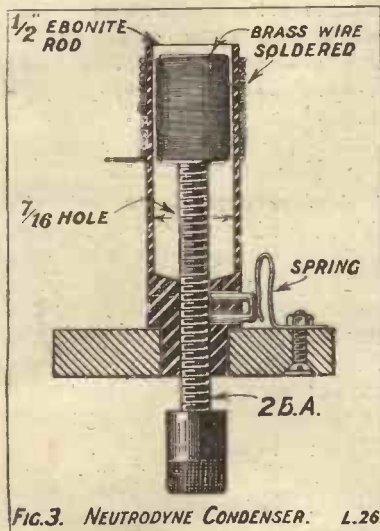

FIG.3. NEUTRODYNE CONDENSER. L.26.
A simple home-made neutrodyne condenser (Fig. 3) is used, as no compact condenser was available. The "Polar" N type is suitable,
- Rod, etc. for home-made neutrodyne condenser and filament resistor (see Figs. 3 and 4).